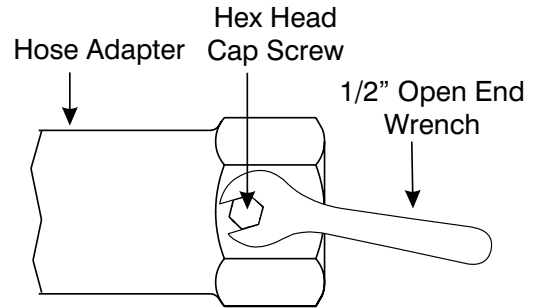

Figure 9-23. Tighten the Hex Head Cap Screw.
8. Use a 1/2-inch open end wrench to tighten the Hex Head Cap Screw (16). Tightened, the Cap Screw enough to prevent the Hose Adapter (15) from backing off of the Valve Stem (8) during operation. Refer to Figure 9-23.